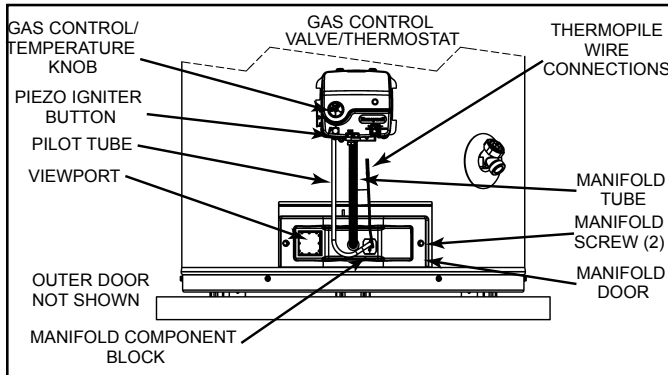

Figure 34
- Remove the screws (1/4" nut driver) securing the manifold/burner assembly to the combustion chamber (Figure 34).